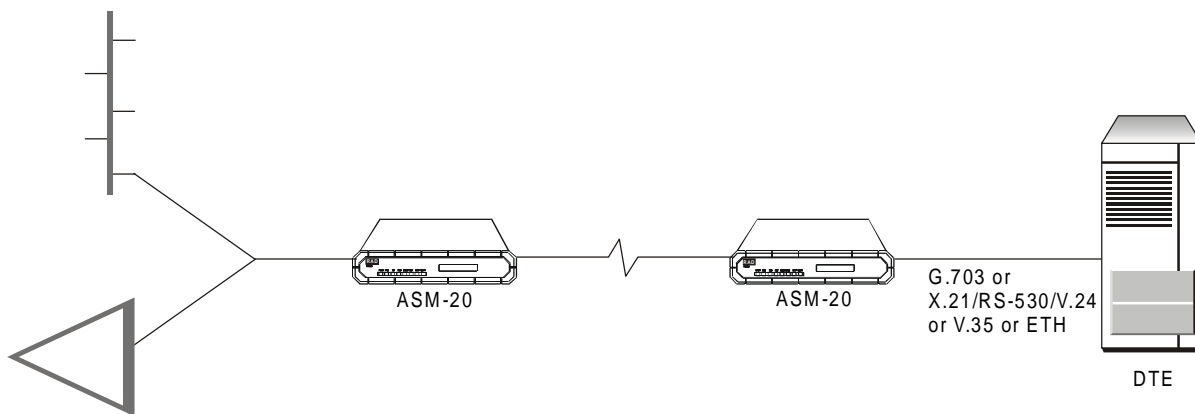

Figure 1-3 Tail-end for Digital Network Application
- Tail-end for digital networks application (see *Figure 1-3*).